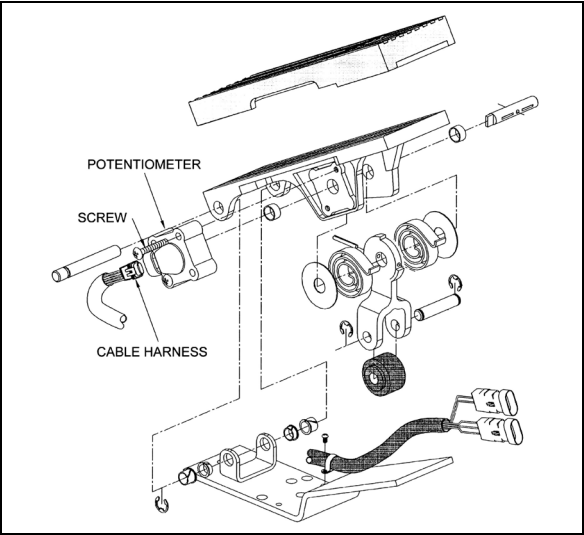

FIGURE 13: ELECTRONIC FOOT PEDAL ASSEMBLY 03035
3. Discard potentiometer (Fig. 13).
4. Position new potentiometer. Press potentiometer onto the potentiometer shaft, matching cutouts in shaft to drive tangs of potentiometer. Apply hand pressure until potentiometer has bottomed out in housing. Reinstall screws (Fig. 13) and tighten just enough to secure potentiometer lightly. Tighten screws to 10 - 20 Lbf-in (1.13 - 2.26 Nm).